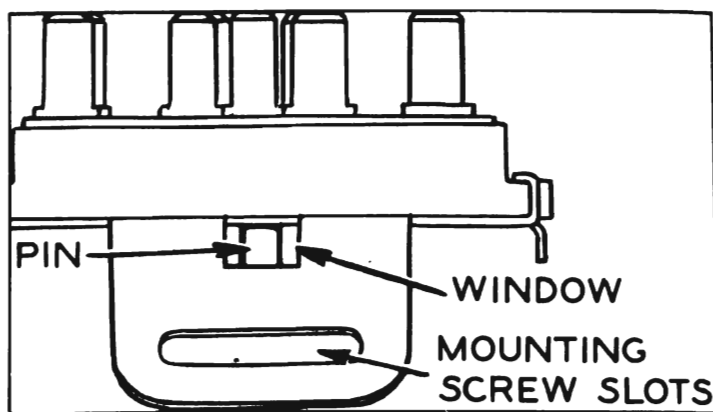

Figure 10-70—Checking Direction Signal Switch Adjustment
2. Loosen two switch mounting screws and move switch up or down steering column jacket until pin projecting from switch is centered in window. See figure 10-70. Pin can be accurately centered by holding a light in back of switch while sighting through window. Tighten switch mounting screws.